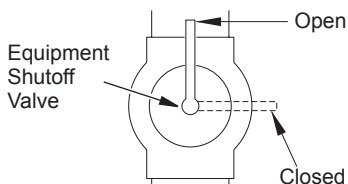

Figure 30 - Equipment Shutoff Valve
1. Close equipment shutoff valve (see Figure 30, page 19).
1. Open equipment shutoff valve (see Figure 30).